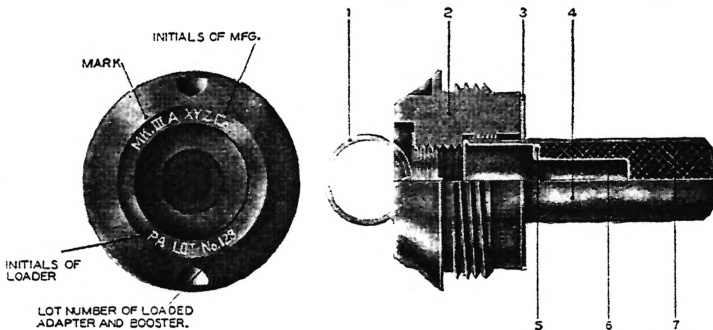

FIG. 10.—Adapter and booster, Mk. III-A
1. Adapter may or may not be painted. (For stamping on adapter, see fig. 10.)
**12. Adapter and booster, Mk. III-A.**—The adapter and booster, Mk. III-A, is used in 155-mm. high-explosive shell, Mk. III. Figure 10 shows this adapter and booster, and gives the names of the principal parts, together with the stamping identifications. A fuze socket protects the booster charge from moisture. As fuzes are never assembled in the shell until just prior to firing, a lifting plug is supplied, which acts as a protection against the entrance of foreign substances, prevents injury to the fuze seat threads in the